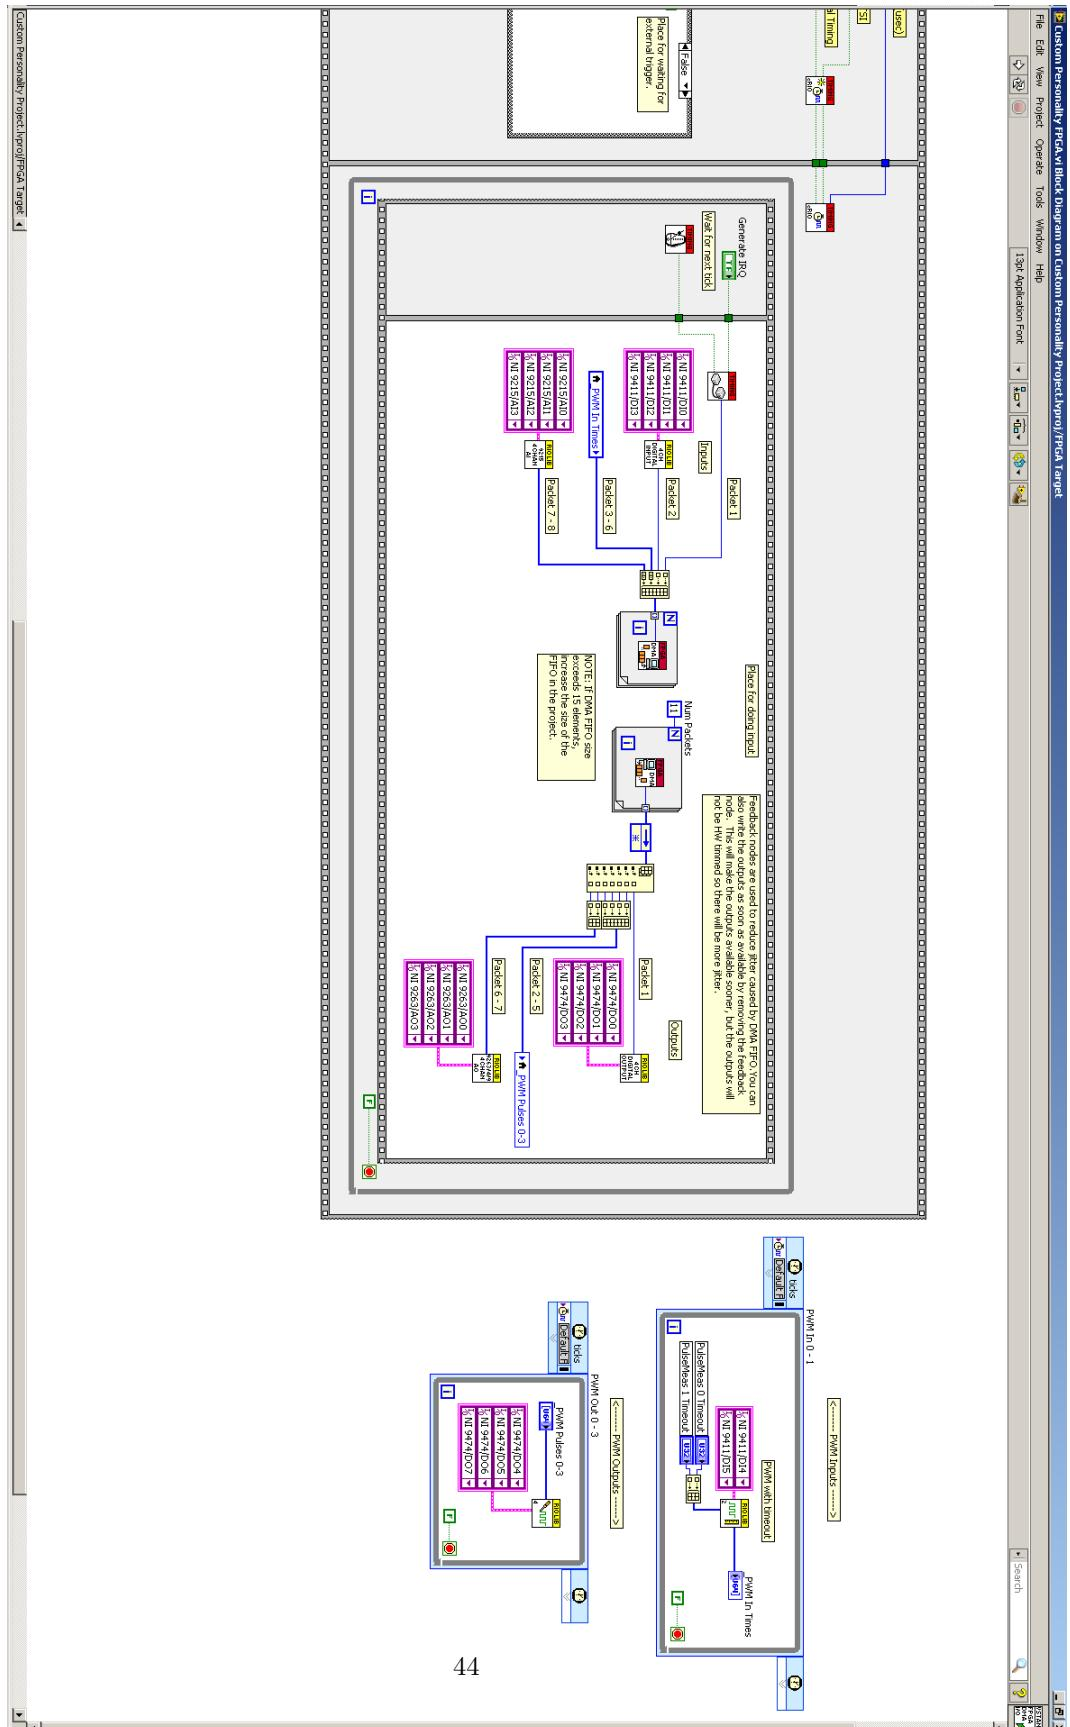
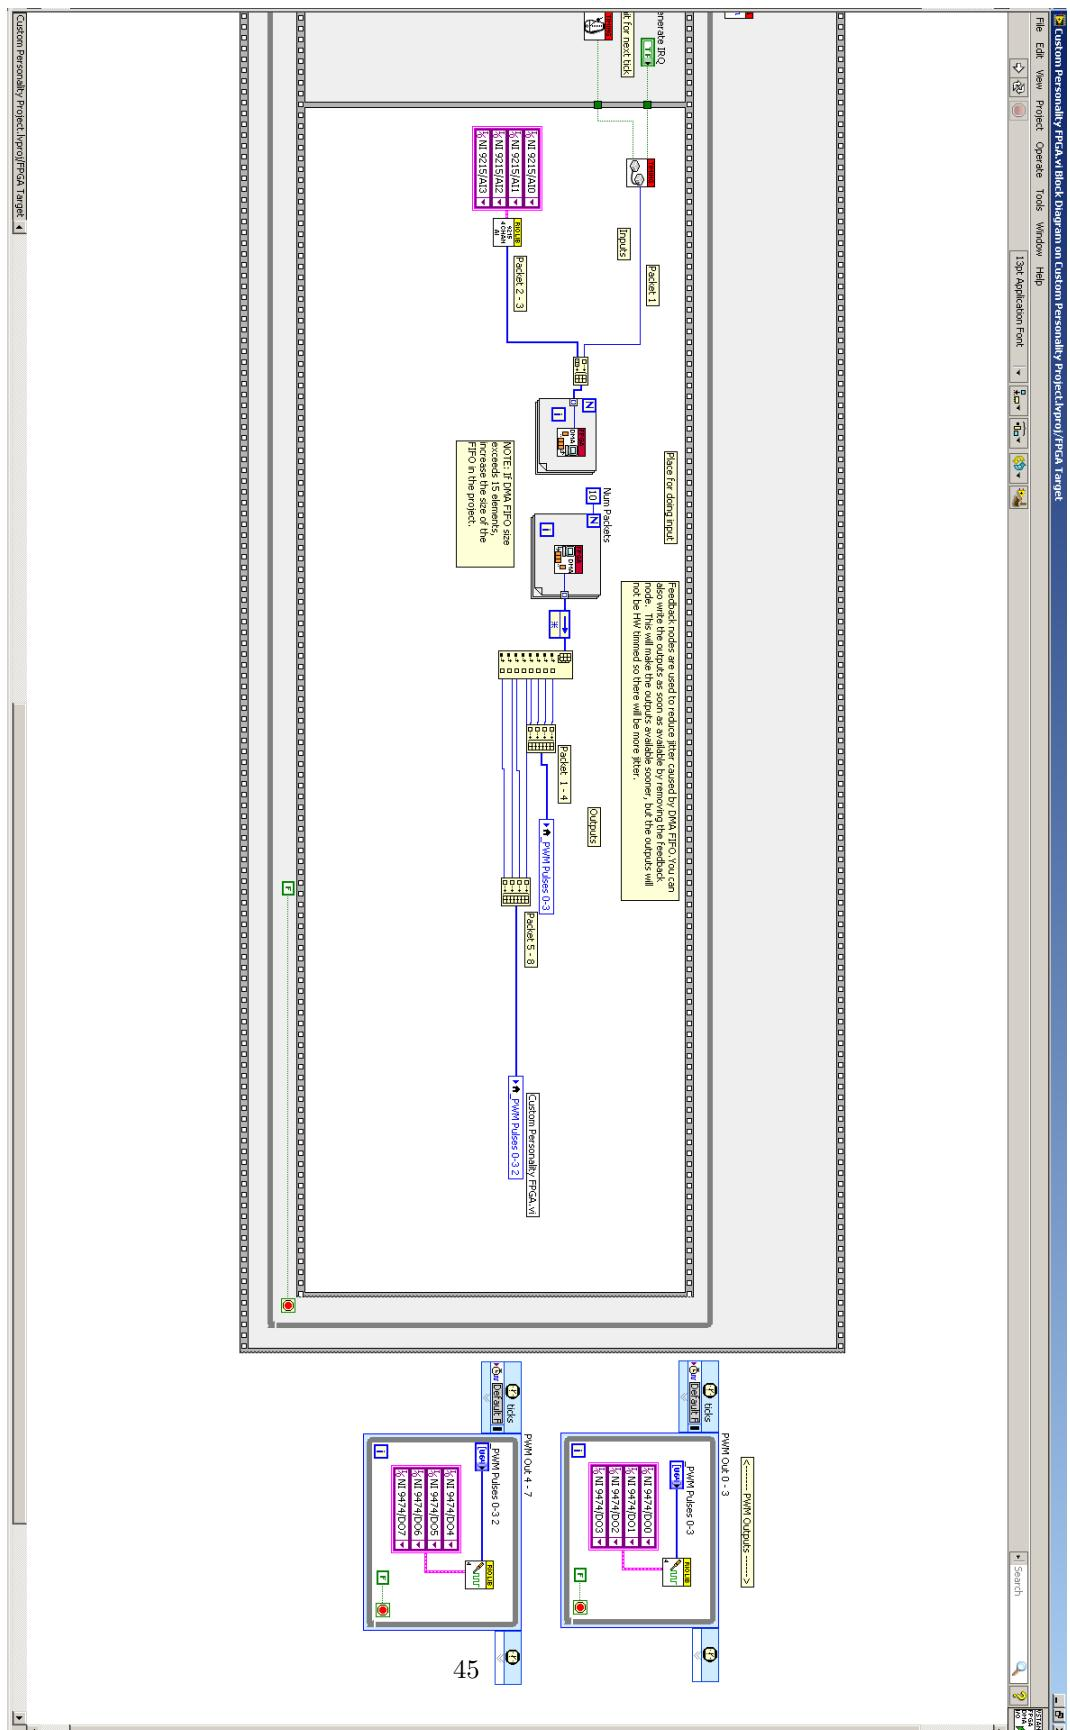

Figure 41: Create Labview FPGA target and XML - 11
Figure 42: Create Labview FPGA target and XML - 12
11. You should now see a block diagram similar to Figure 41. You will now have to redesign this to look like Figure 42. This will be valid for our system, if you have different I/O modules the block diagram need to reflect this.